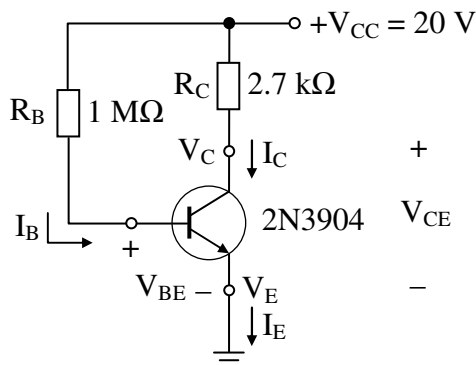

Fig. 6.4 Fixed-bias configuration
1. Construct the network of Fig. 6.4 using the 2N3904 transistor. Insert the measured resistance values.
- Using the β determined in Exp. 6.3.1, calculate the currents I_B and I_C for the network of Fig. 6.4 using simply the measured resistor values, the supply voltage, and the above measured value of V_{BE} . That is, determine the theoretical values of I_B and I_C using simply the network parameters and the value of beta.
- Energize the network of Fig. 6.4 and measure V_B , V_C , V_E and V_{CE} .